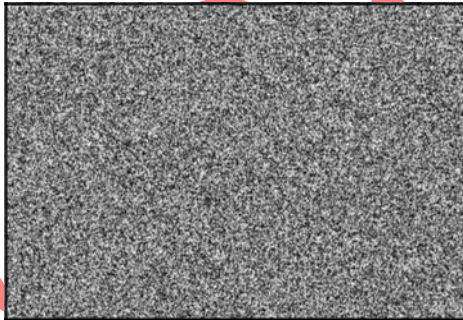

Figure 37
6. Adjust screw to obtain correct Top No Load RPM (Figure 37).